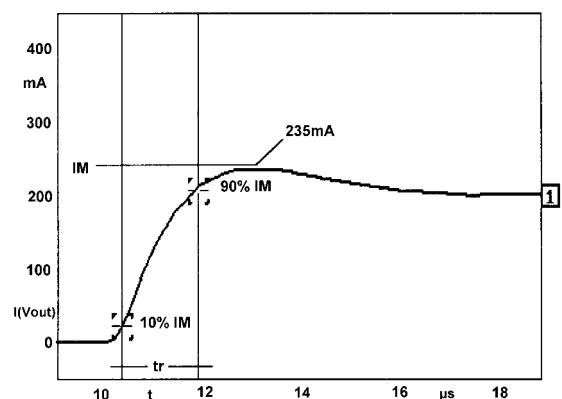

Fig. 6 SKPT 25a3 measurement of rise time
The diagram Fig.6 shows the **SKPT 25a3** and the corresponding rise time. The di/dt may be evaluated from (2):